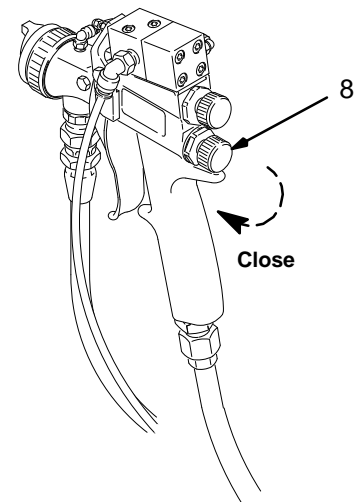

Fig. 16 02784
- D. To further reduce the volume of adhesive output at the gun, turn the fluid adjustment knob (8) clockwise as needed. See Fig. 16. However, for the best results, adjust the adhesive pressure or use a different size needle/nozzle/air cap combination to change the fluid flow. Refer to page 4.